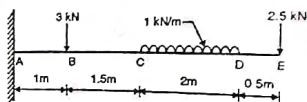

Figure 04
B) Draw shear force and bending moment diagrams for the cantilever beam as shown in figure 04 (CO4) 6